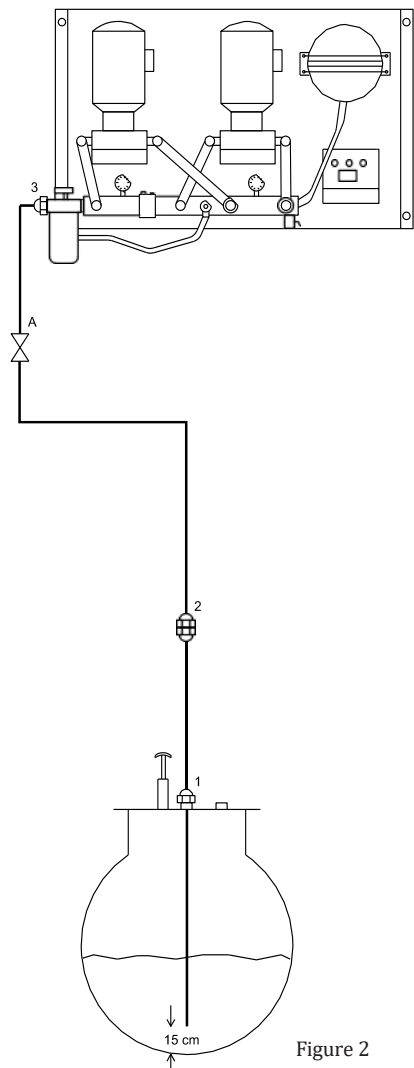

Figure 2
2. It is recommended to use connectors 1-2-3 included according to Figure 2 and to include a shut-off valve at suction “A” (to isolate pressure equipment aspiration from the main tank).
3. The installation inside the tank is executed either by floating aspiration tube or employing intake piping with a 15-cm margin from the tank bottom, according the Figure 2.